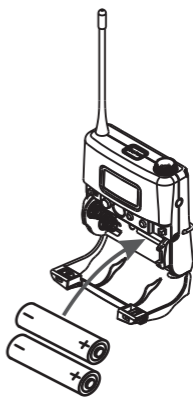

Fig. 31
2. Insert two AA sized batteries according to correct polarity, Fig. 31.